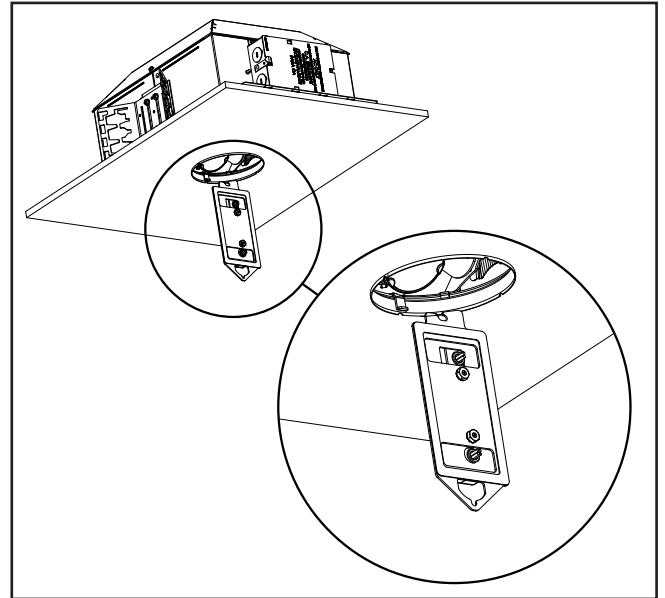

Figure 13.
7. Carefully pull the driver out of the ceiling recognizing the supply wires and dimming wires will follow the driver through the aperture (see Figure 13).